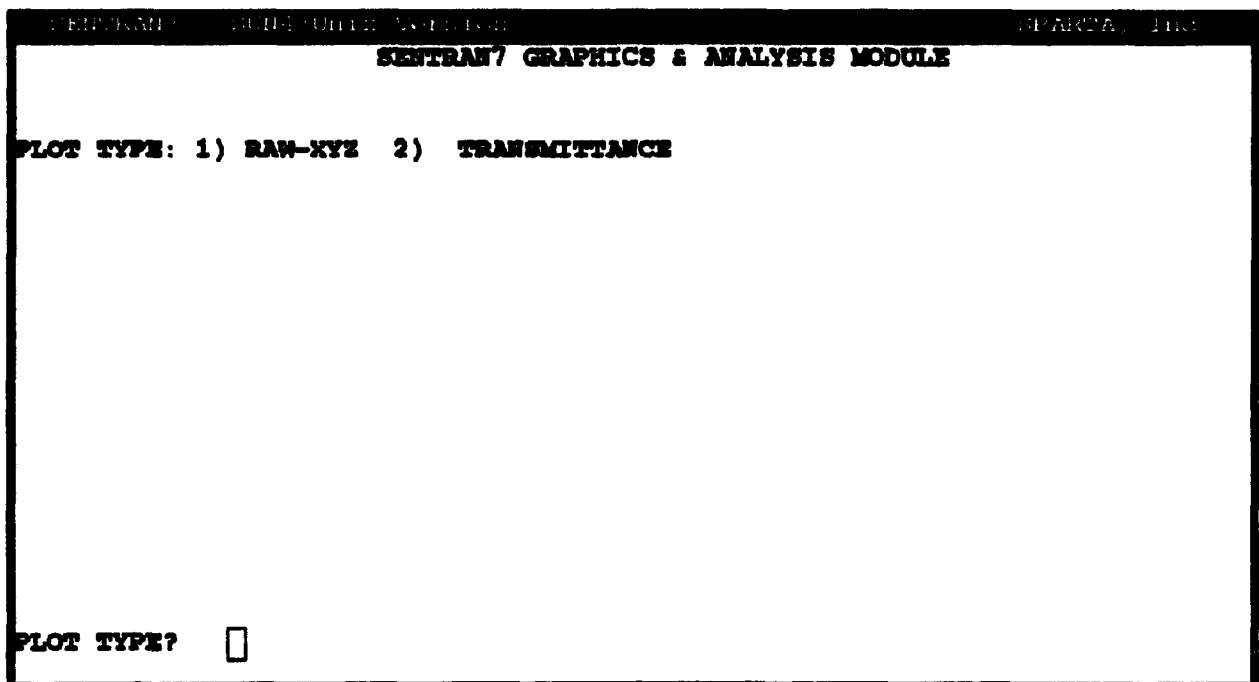

Figure 61. Initial Screen Displayed for the SENTRAN7 Graph and Analyze Option
- 1) Type '7' or 'graph' or some sub-string of the word 'graph', such as 'g' at the Main Menu prompt. The initial screen displaying the available plots for the input cards defined in the Edit Module will appear, as shown in Figure 61.